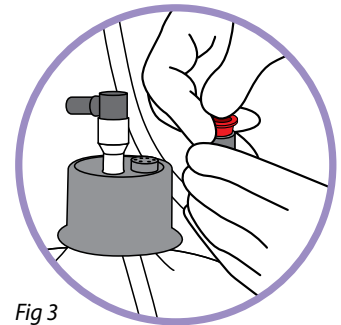

Fig 3
3. Unplug the bottle tube connected to the neck of the water bottle. Plug the bottle tube using the red plug provided in the SmartFlo™ replacement kit (Fig 3).